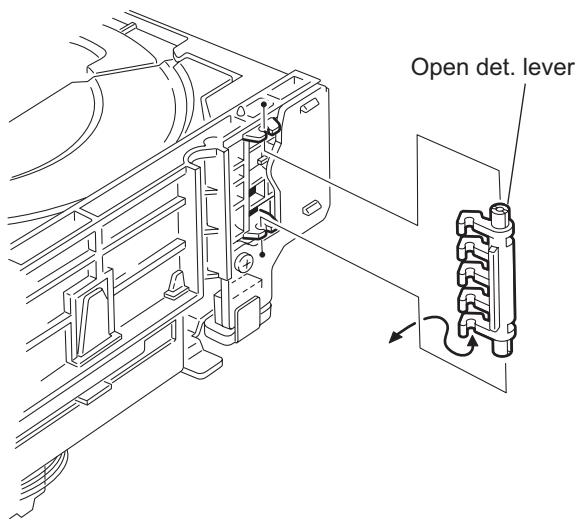

Fig.3
- (3) Remove the open det. lever on the left side of the DVD changer mechanism assembly. (See Fig.3.)